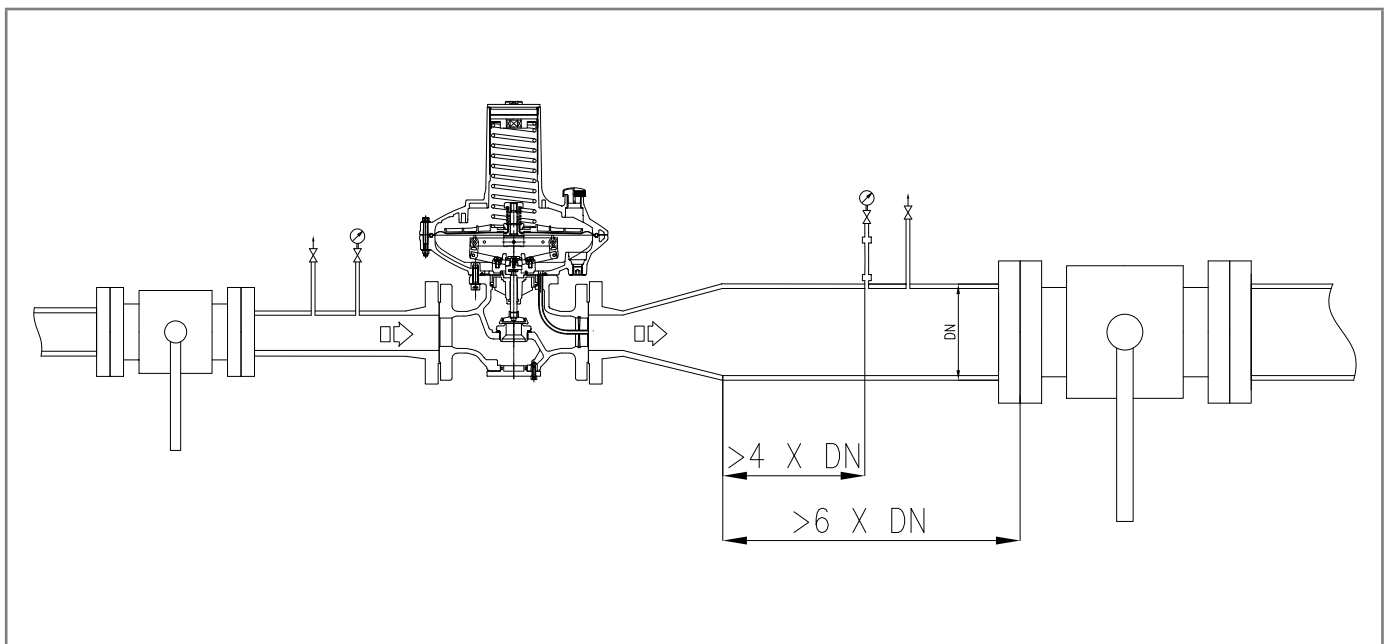
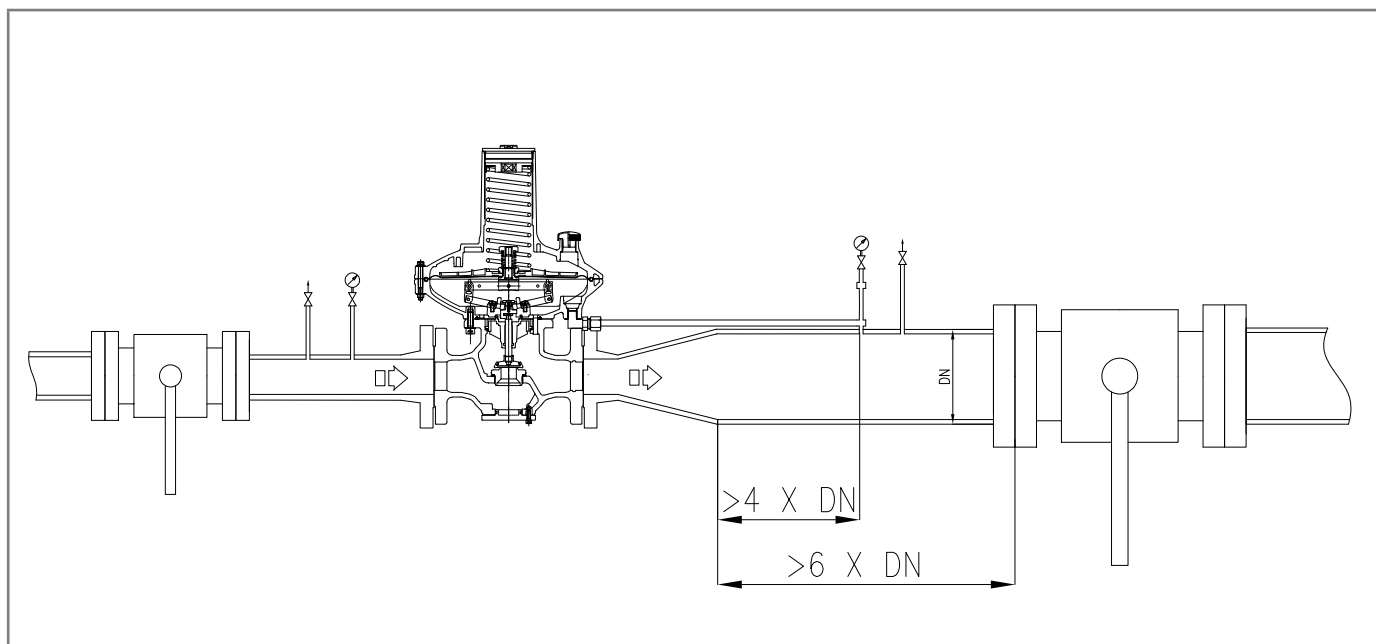

Fig. 6.13. Connection of sensing lines to the downstream piping DIVAL 700
Fig. 6.14. Sensing line connection to downstream pipeline DIVAL 700 with monitor function
For the Dival 700 equipment the sensing lines are internal (Fig. 6.13), for the Dival 700 with inline monitor function the sensing lines are external (Fig. 6.14).
- the connections of the pneumatic connection are always welded to the top or horizontal axis of the pipe itself (refer to Fig. 6.14);